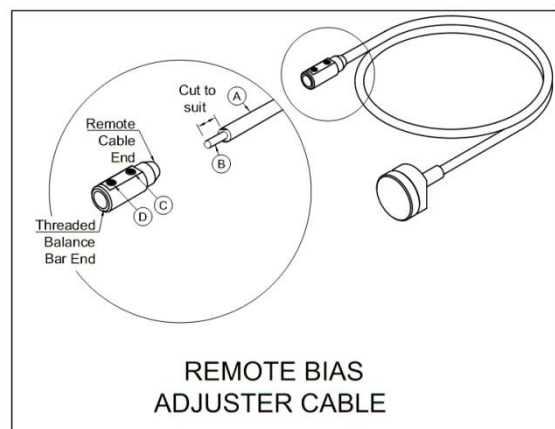

Figure 15 Remote Bias Kit (PE001-4007)
- Fix the cable to the remote adjuster knob and the balance bar threaded section using the provided set screws. Should you wish to shorten the cable, ensure all ends are de-burred and long enough to operate correctly. Trim outer skin labelled in Figure 15 so that the core wire 'B' is long enough to be inserted into the threaded adaptor. Once inserted, tighten the set screw 'C' to clamp onto the cable. Next, wind the adaptor onto the threaded balance bar until the set screw hole 'D' lines up with the hole in the balance bar. Tighten set screw 'D' to prevent the adaptor coming loose during operation.